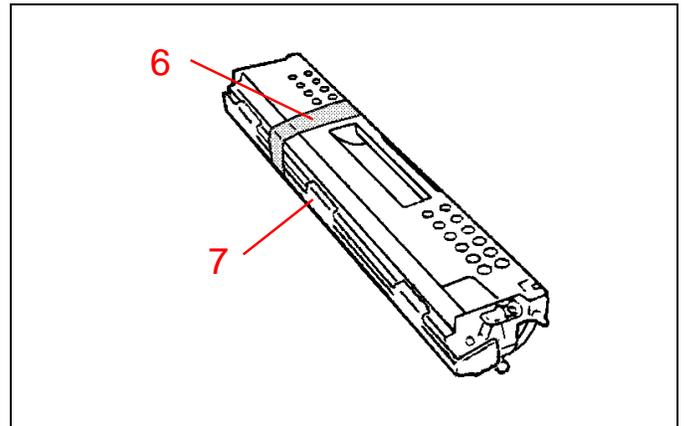

Figure 35
- See Figure 35. Hold the fuser oil roll cartridge by the handle and remove the tape.